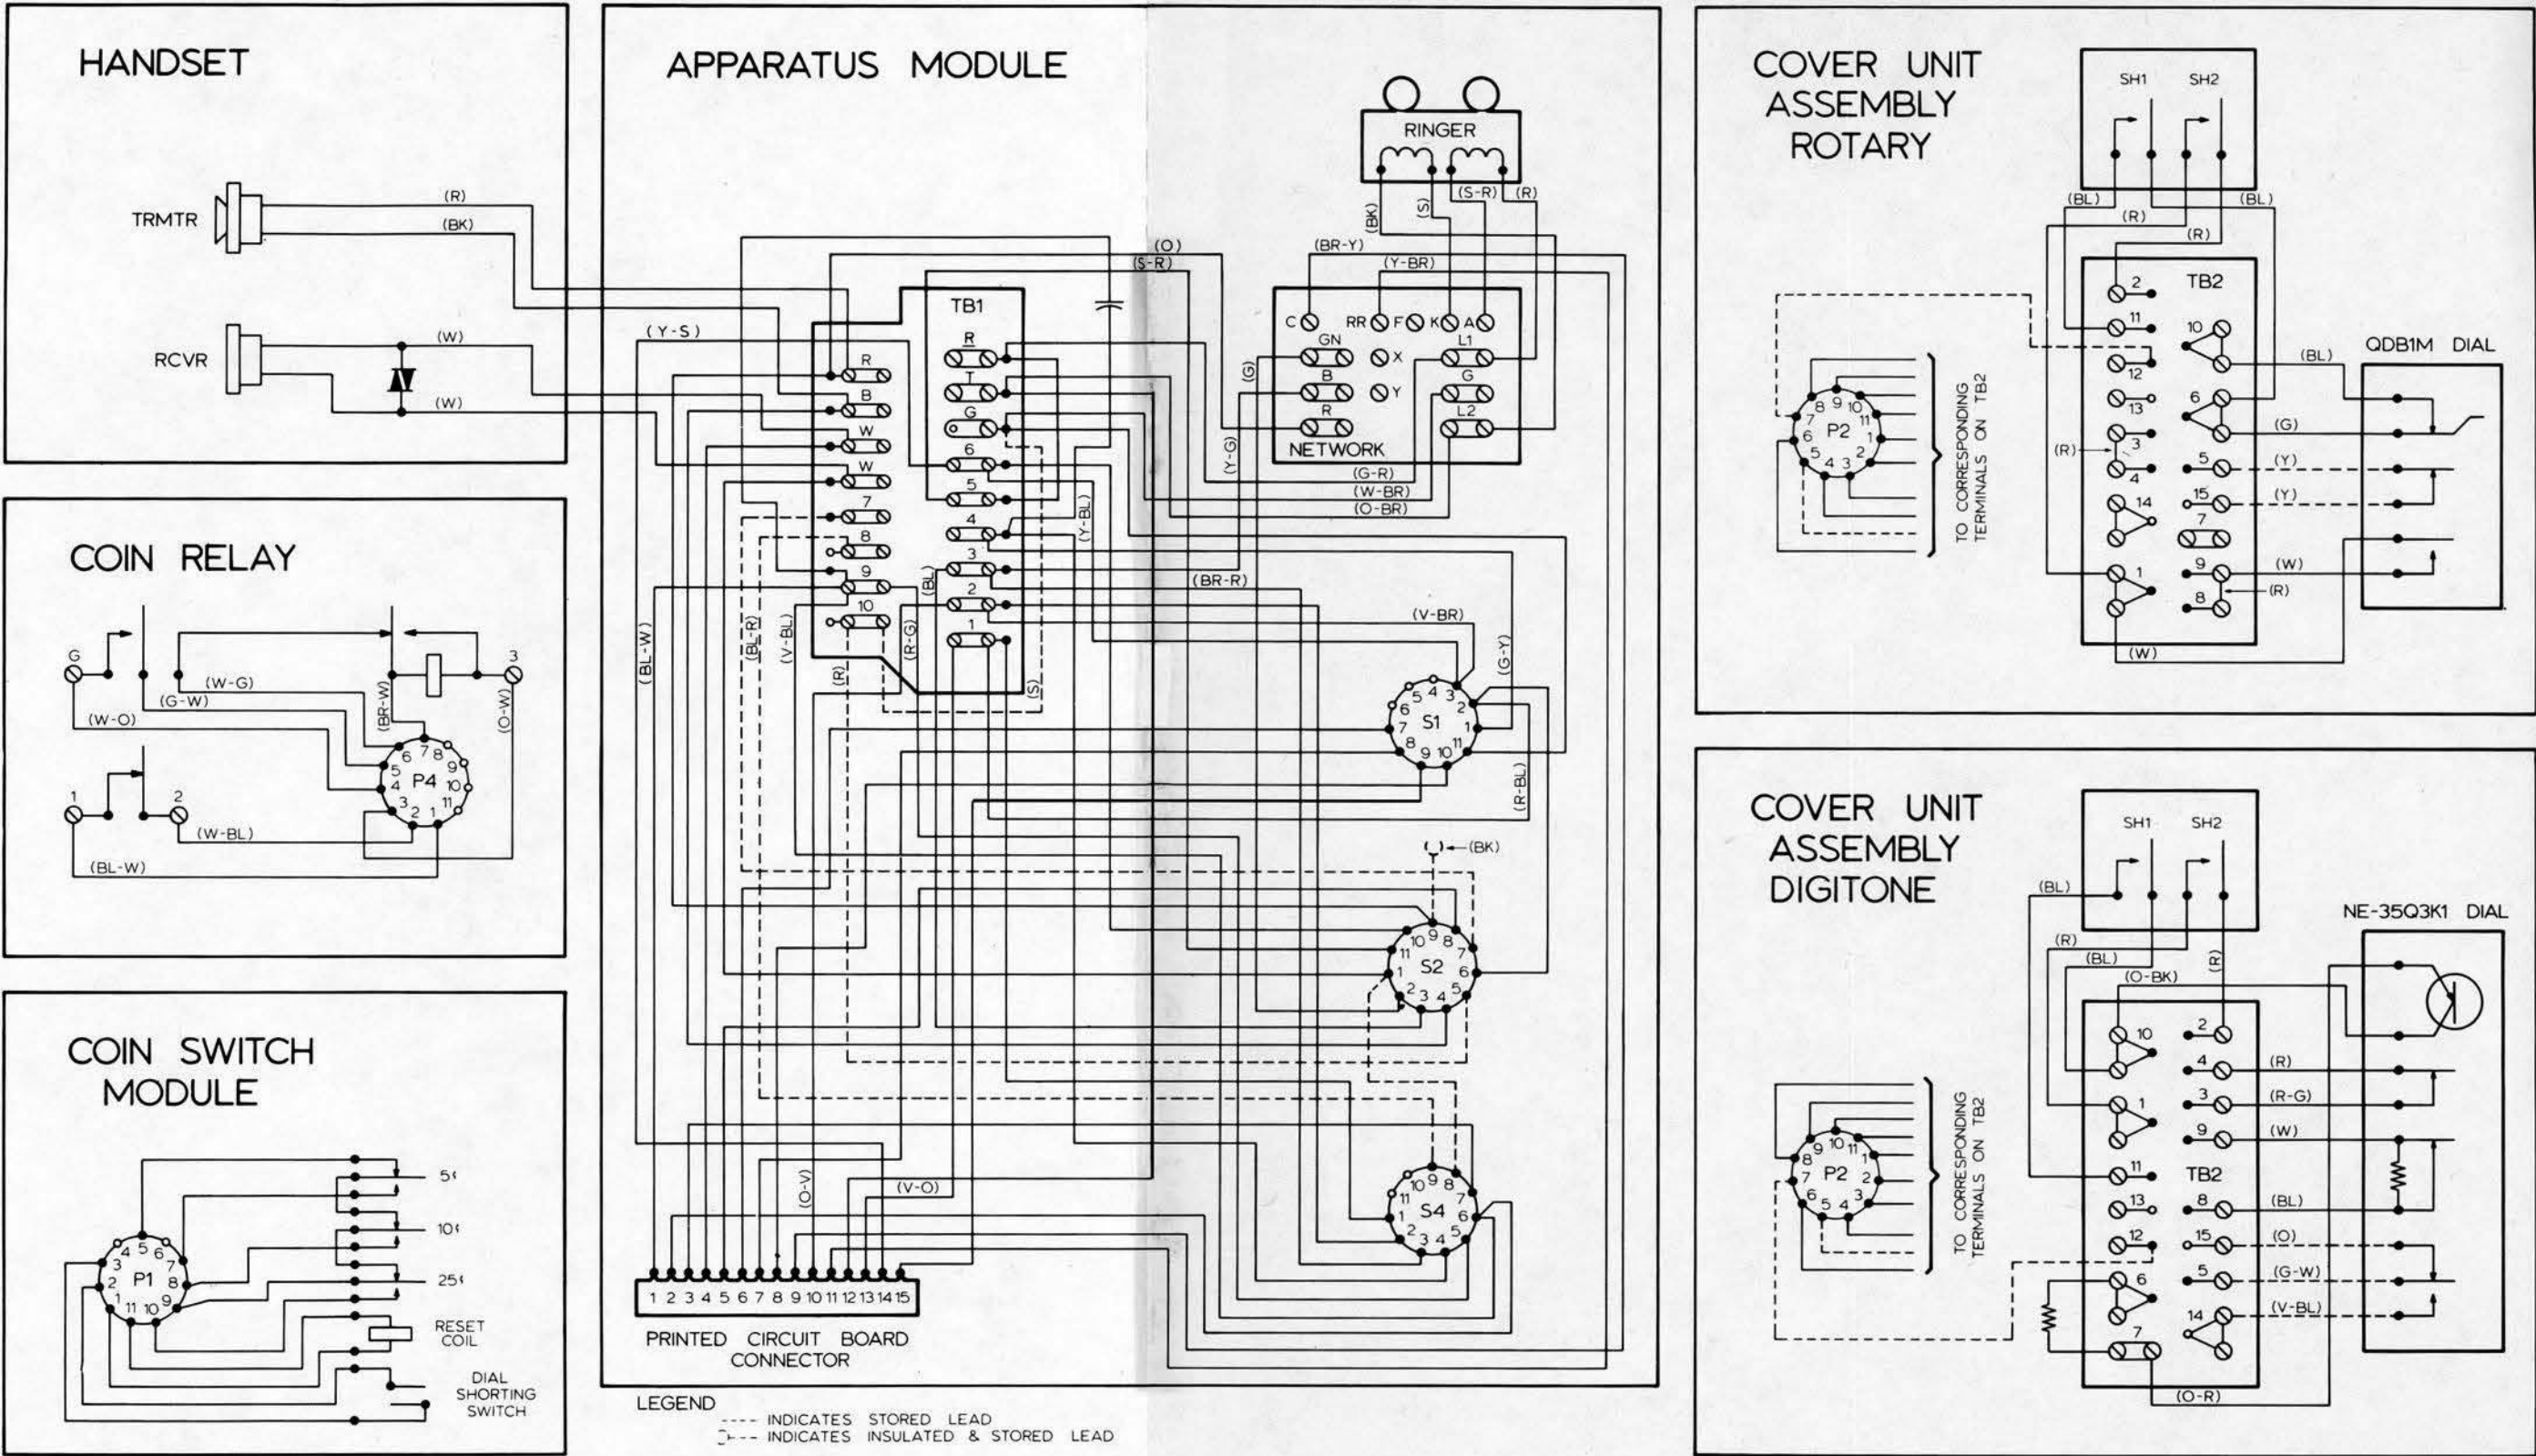

Fig. 2 — Connection Diagram — QSD400A1 and QSD2400A1 Coin Telephone Sets
2.05 The wiring connections for the QSD400A1 and QSD2400A1 type coin telephone sets are given in Fig. 2.